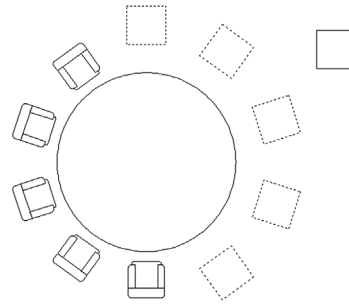

FIGURE 8.7 Replace Item in progress.
- **Replace Item:** If editing the source is too time consuming, then just replace it with another design via this option. AutoCAD asks you to select the replacement object and a base point. Use the Key Point option to pick a point on the replacement object. Finally, select an item (or several items) in the array to replace. Fig. 8.7 shows Replace Item in action as squares replace the chair symbol.